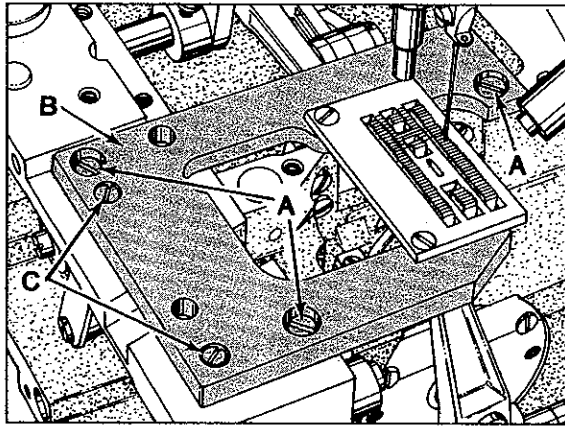

Fig. 10
Feed dog should be centered in throat plate with equal clearance on all sides and ends. At highest point of travel, feed dog teeth should extend the depth of a tooth or approximately $\frac{3}{64}$ inch (1.2mm) above throat plate and parallel to same. Minor right to left adjustments can be made by loosening three screws (A, Fig. 10) in throat plate support (B). There are two adjustable ferrules used to align throat plate support. Loosen two screws (C) which secure the ferrules and reposition throat plate support slightly as required, considering both needle hole and feed dog slots. Tighten two screws (C) first, then tighten three screws (A).